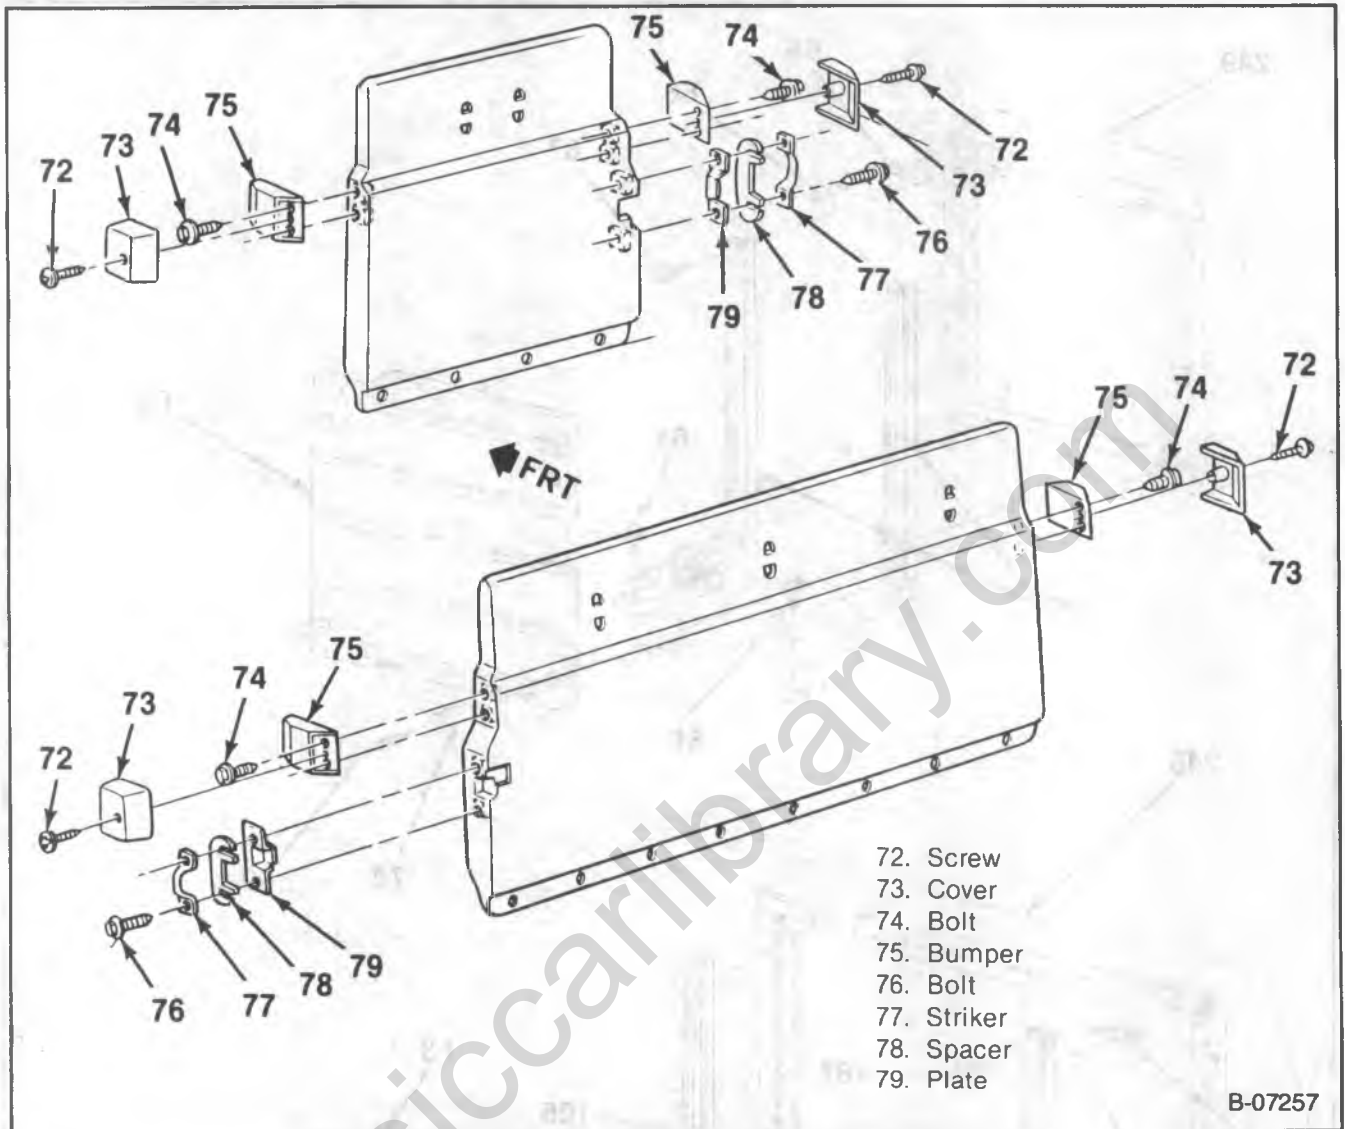

Figure 13 — Center Seatback Bumper and Striker Components
- Remove or Disconnect (Figure 13)**
1. Bumper cover screws (72) and bumper covers (73).
2. Bumper (75) to seat bolts (74).
3. Bumpers (75).
4. Striker bolts (76).
5. Striker (77).
6. Spacer (78).
7. Plate (79).
- Install or Connect (Figure 13)**
1. Plate (79).
2. Spacer (78) as required.
3. Striker (77).
5. Bumpers (75).
6. Bumper (75) to seat bolts (74).
7. Bumper covers (73) and bumper cover screws (72).